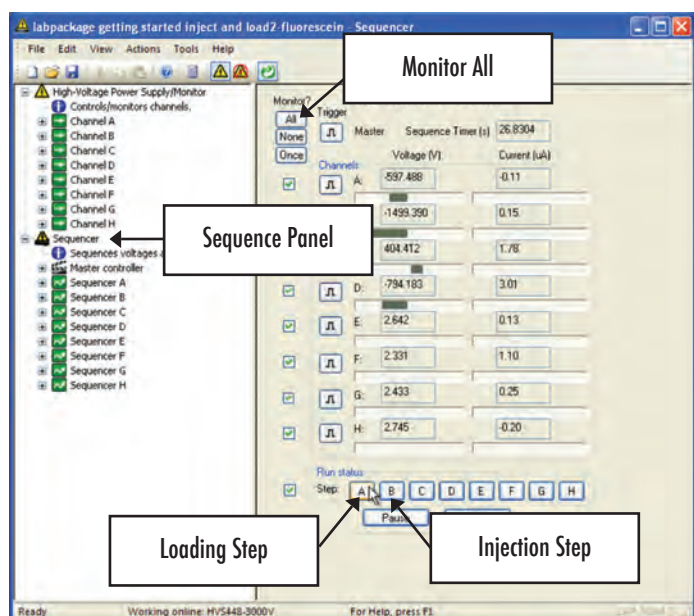

Figure 6. Picture of Sequence Software screen when running Load and Inject sequences.
10. Now it's time to run the sequence. Press A to run the Load voltage sequence. Press B to run the Inject voltage sequence (Figure 6).